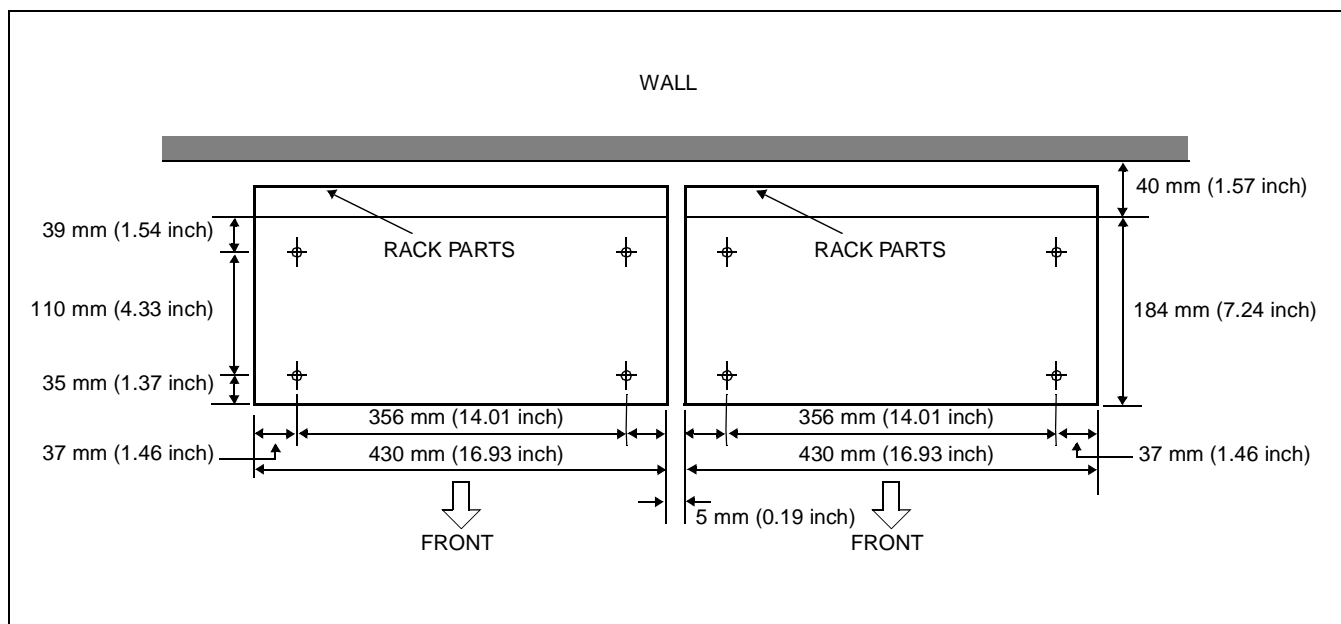

Figure 002-1 Floor Marking for Main Equipment
- Referring to Figure 002-1, mark the installation holes for the main equipment.
- (3) Attaching the BASE to the floor.
- Position the BASE over the holes drilled as per Figure 002-1.